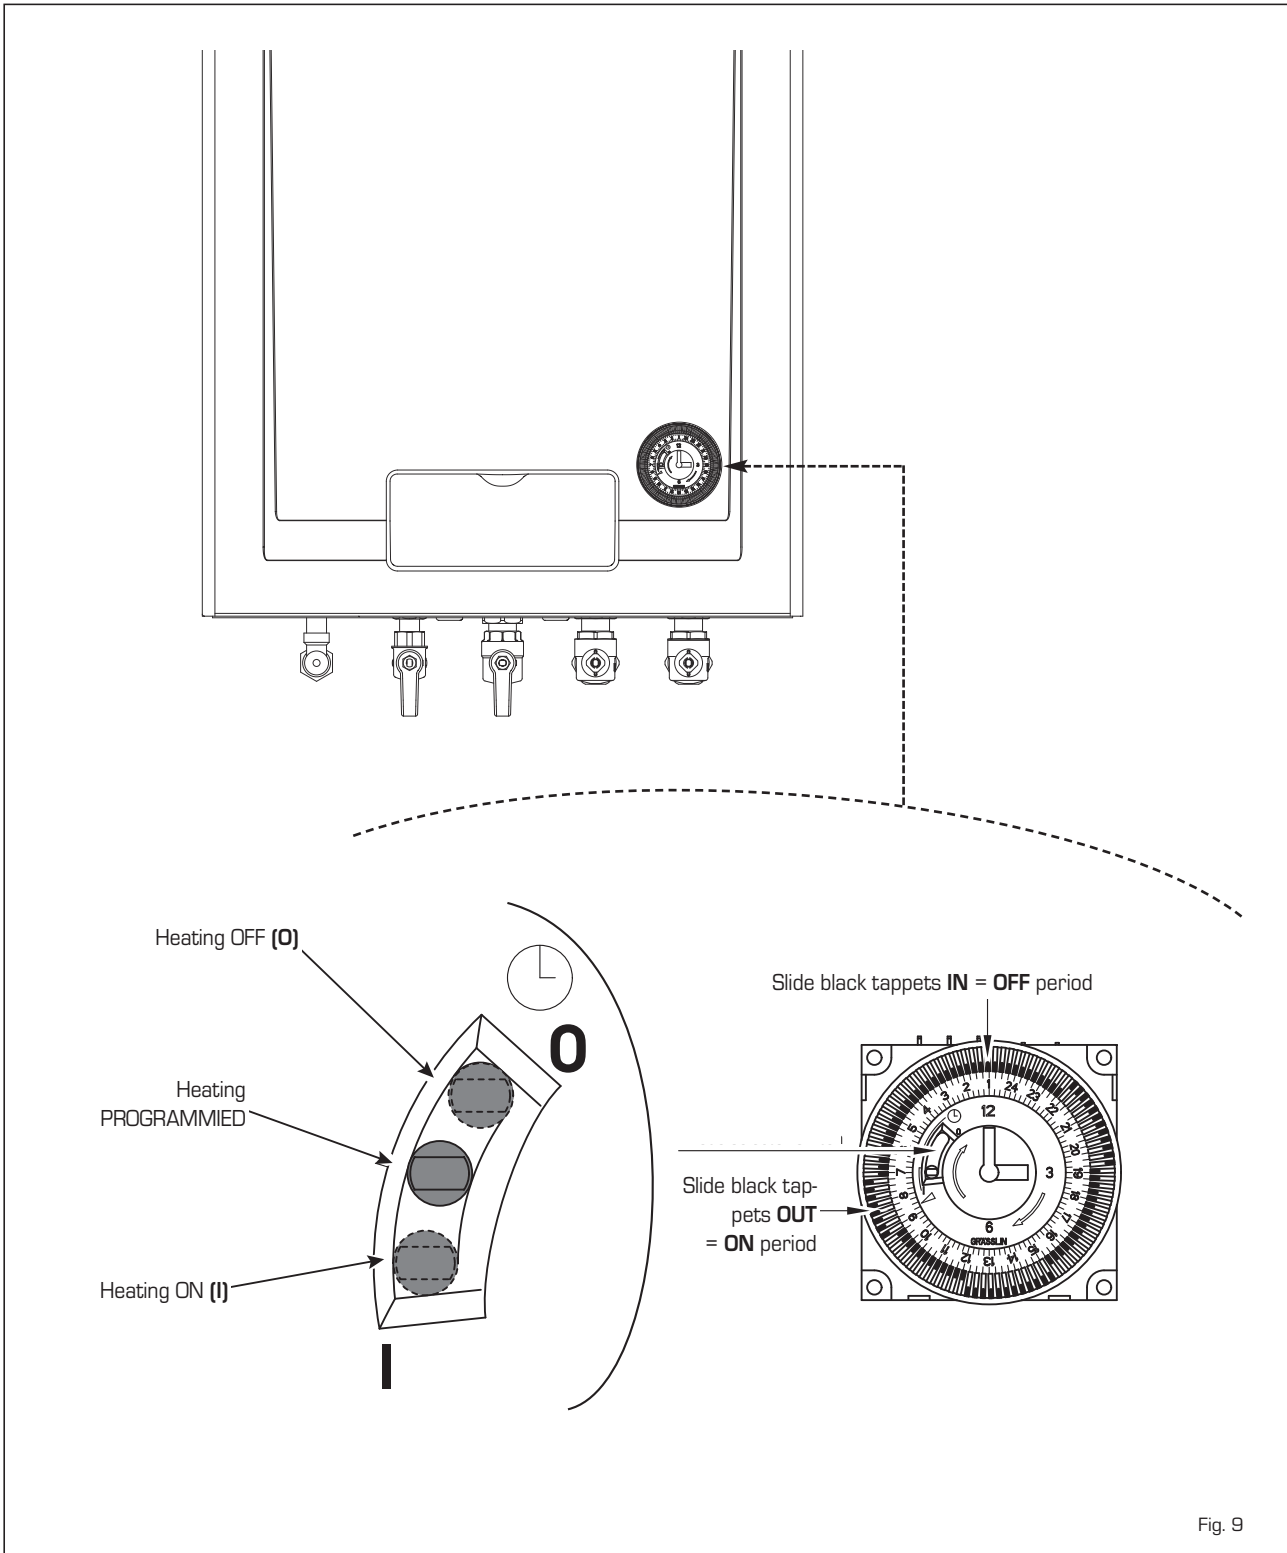

Fig. 9
1.11 INSTRUCTIONS FOR PROGRAMMING CLOCK (fig. 9)